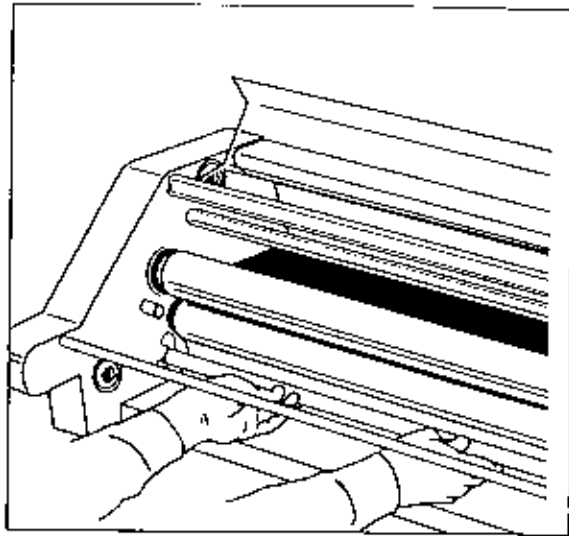

Fig. 6
- Turn the main power switch on. If the laminator is already hot turn the main power switch off (O) and allow the unit to cool, then turn the machine back on (I). Remove feed table.
9. Lower the bottom idler bar, (Figure 6).